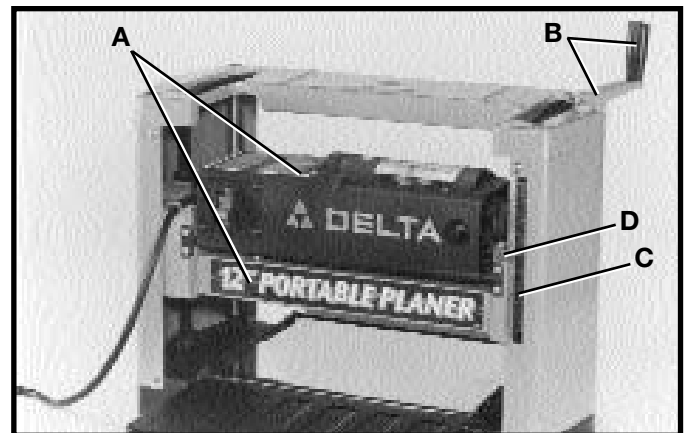

Fig. 15
The head assembly (A) Fig. 15, contains the cutterhead feed rolls, chip deflector and motor. Raising and lowering the head assembly controls the depth-of-cut on your planer. To raise or lower the head assembly, rotate the raising and lowering handle (B). **NOTE:** One revolution of the handle will move the cutterhead up or down approximately $5/64$. An English/metric scale (C) and pointer (D) is located on the side of the planer for ease in setting the height of the cutterhead.
A dual English/Metric scale and pointer, located at the right front of the machine, indicates the thickness of the workpiece. **NOTE:** One revolution of the raising and lowering handle (B) Fig. 15, will move the cutterhead up or down $5/64$.
2. Lower the head assembly by turning handle (B) Fig. 15.